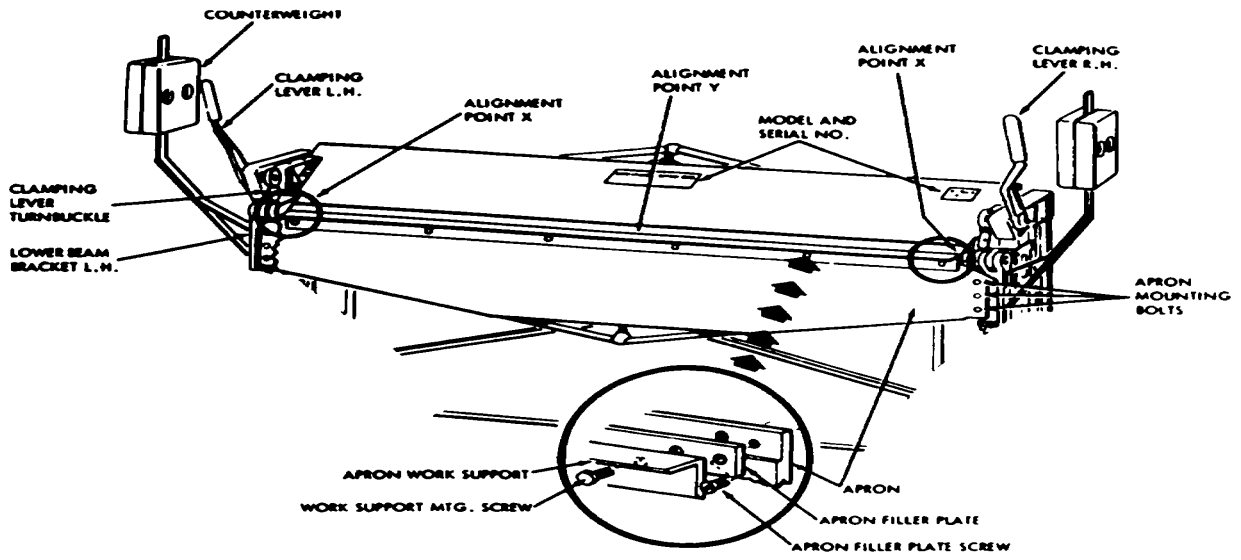
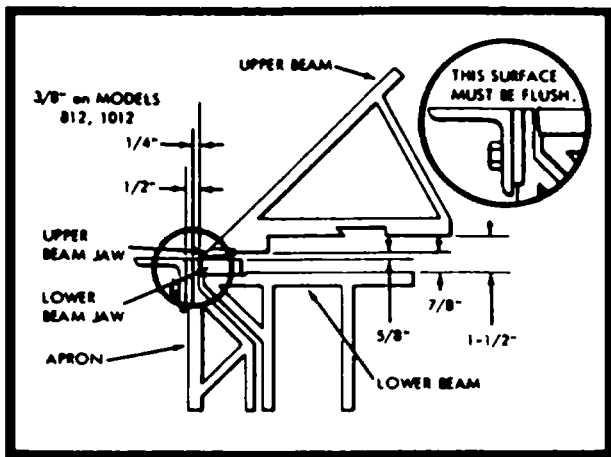
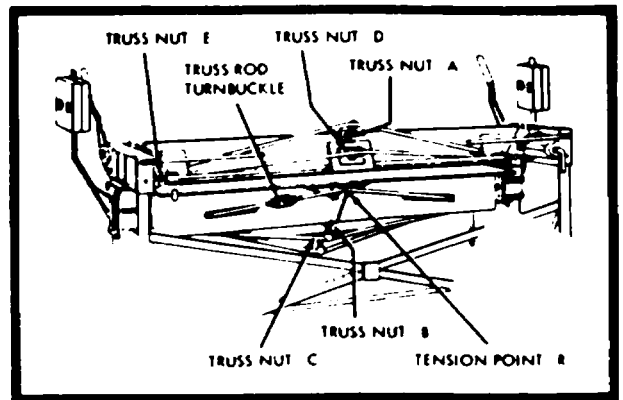

Figure 1. Front View of Brake
Figure 2. Reference Dimensions
Figure 3. Rear View of Brake Showing Tension Adjustment Points
Apron angle iron work support (see figure 1) is removed.
(2.) ADJUSTMENTS FOR BOWING: Refer to figure 3 for location of Truss Nuts.
SOLUTION: Tighten Truss Nut (B). Level the Apron with the Lower Beam Jaw (see figure 2).
(3.) ADJUSTMENT FOR UNEVEN ANGLE OF BED: If 90° sample bend is true at both ends but less than 90° at center of piece, loosen Apron Mounting Bolts (figure 1) and lower the Apron approximately 1/32" by unscrewing the Apron Adjusting Screws. Retighten the Apron Mounting Bolts and tighten Truss Nut (C, figure 3) until both Jaws of brake are flush at brake center (see figure 2).
- (1.) Loosen all Truss Nuts (A,B,C,D,E, figure 3) and Truss Rod Turnbuckle until all tension is released.
- (2.) Tighten the Truss Rod Turnbuckle until the rods are snug at tension point (R). Tighten an additional 1/4 turn.
- (3.) Tighten Truss Nut (B) until snug. Tighten an additional three complete turns.
- (4.) Check Apron at the alignment points (X, figure 1) to see if it is flush with top of Lower Beam Jaw (see inset, figure 1). Up and down movement of the Apron is controlled by turning the Apron Adjusting Screw (figure 1) at each end of the Apron.
- (5.) Tighten Truss Nut (C, figure 3) until Apron is flush with Lower Beam Jaw alignment point (Y, figure 1).
- (6.) Tighten Truss Nut (E, figure 3) as tight as possible.
- (7.) Tighten Truss Nut (A) until the Upper Beam Jaw is straight and parallel in relation to the Lower Beam Jaw.
- (8.) Tighten Truss Nut (D) until the center of the Upper Beam Jaw bows forward slightly.
Remove Apron Angle Iron Work Support and Apron Filler Plate (inset, figure 1). This permits 1/4" reverse bends to be made on all brakes.